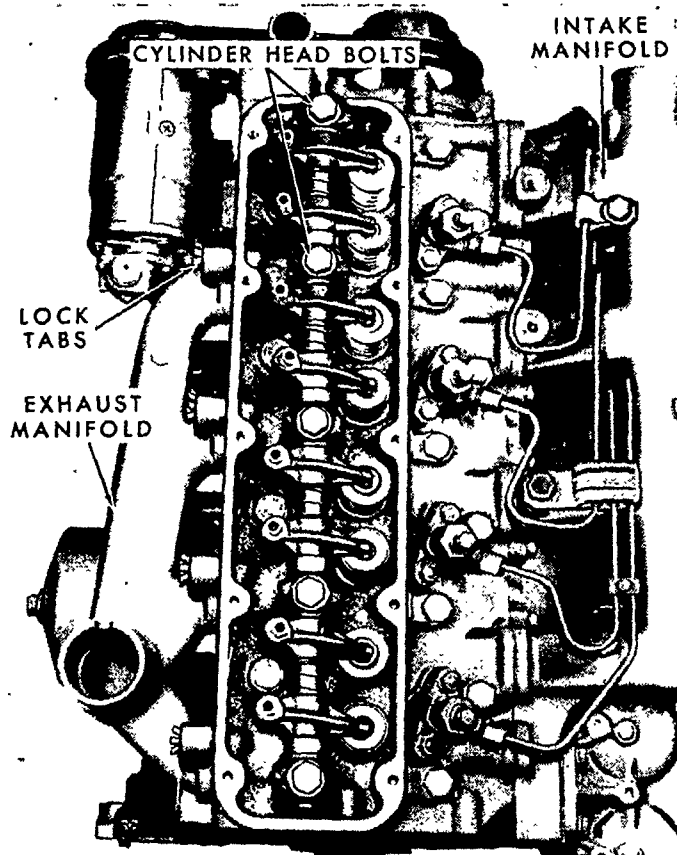

Figure 6
3. Bend the lock tabs back, Figure 6, and remove the bolts that secure the exhaust manifold to the cylinder head.
4. Remove the exhaust manifold and metal gasket, Figure 6.
9. Remove the bolts and lock washers that retain the intake manifold, Figure 6, to the cylinder head and remove the manifold and gasket.
12. Visually check the push rods for straightness before they are removed by rotating them with the valve closed. Loosen the bolts that retain the rocker shaft to the cylinder head, Figure 6, evenly and alternately until all tension has been relieved, and lift the rocker shaft assembly from the cylinder head.